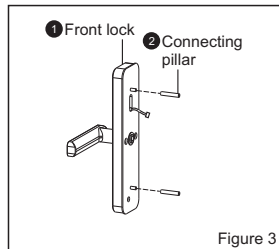

Figure 3
- As Figure 3:
- (1) Fix the two connecting pillars on the front panel.